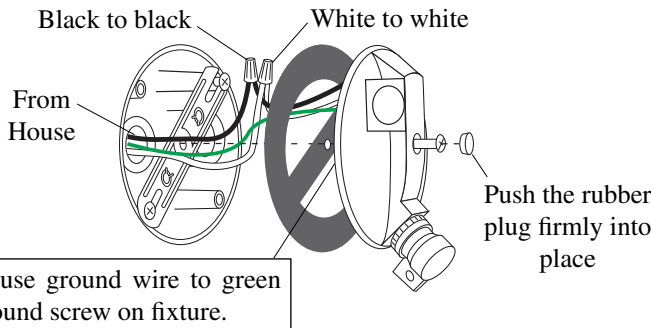

Figure 1 Wiring at Junction Box Plate
3. Connect the light control as shown in Figure 1: